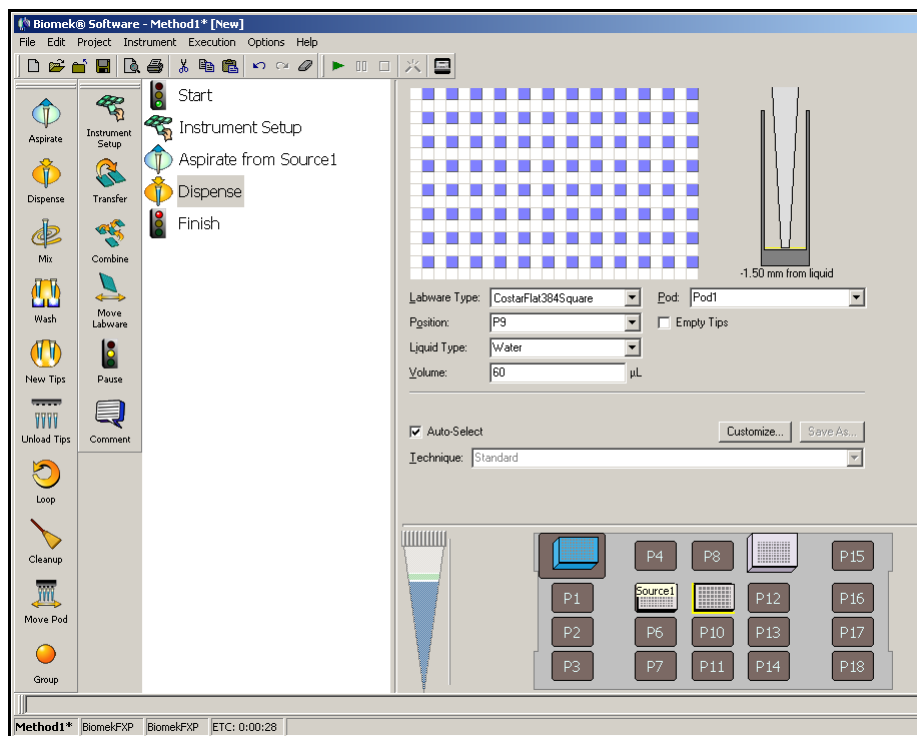

Figure 3-3. Dispense step configured
4. In the graphic of the 384-well plate, select the second quadrant. Your **Dispense** step configuration should look like Figure 3-3.